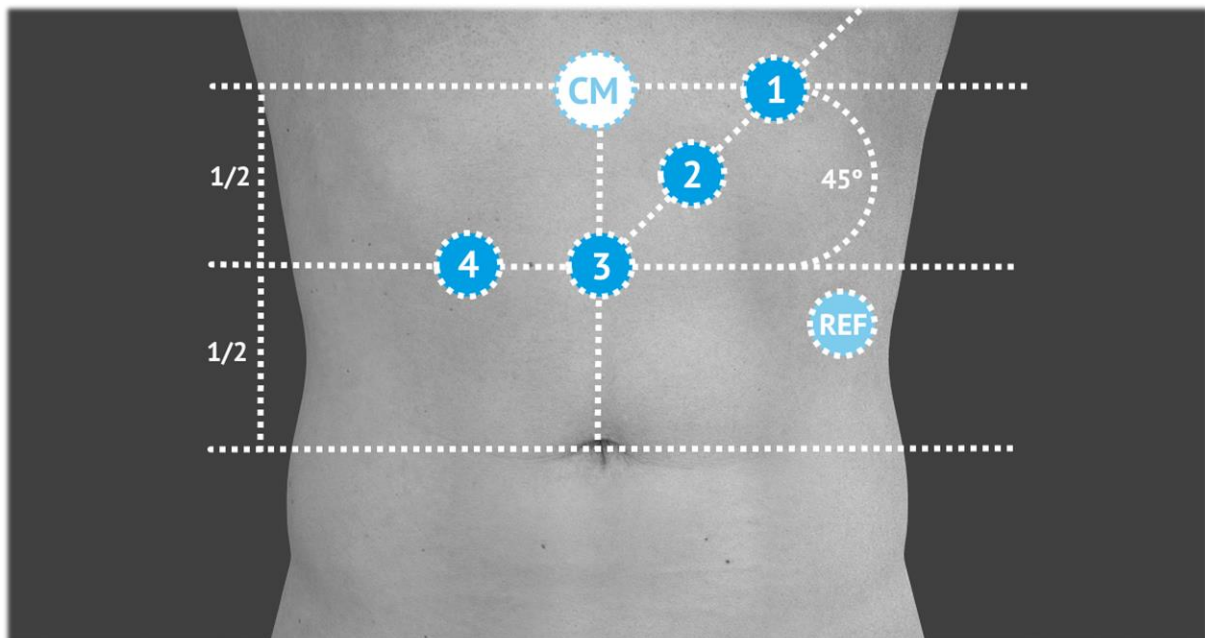

Figure 4: Recommended EGG electrode placement [2] (image based on the graphical resource available at [17]).
The proposed configuration (Figure 4) can be achieved through the following guidelines:
- > Placement of the first **EGG** exploratory electrode² in the standard position number 3 and the second on position 2 (Figure 4), which can be found with two reference points (“2 cm above the mid-point between the xiphoid process and the umbilicus (electrode 2) and on an upper 45 degree angle 5 cm away”[2]);